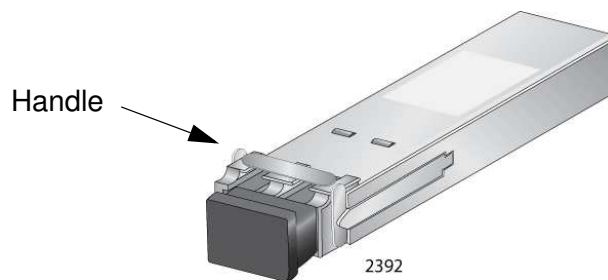

Figure 100. Handle on the XFP Transceiver
3. Orient the transceiver with the handle on top, as shown in Figure 100 on page 162.